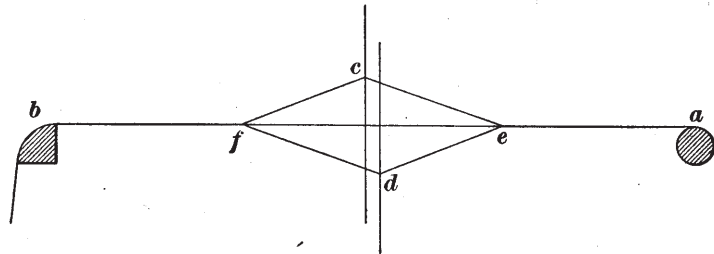

FIG. 1
10. The **warp line** may be defined as an imaginary line drawn from the top of the whip roll to the top of the breast beam and passing through the shed when open. This will be seen by reference to Fig. 1, where *a* represents the whip roll; *b*, the breast beam; *fce*, the line of the top shed; *fde*, the line of the bottom shed; and *ab*, the warp line.
The position that the warp line *ab* assumes forms an important point in the production of cloth on which there is to be more or less cover. In Fig. 1, the warp line *ab* forms the line *aefb* of the warp yarn; in other words, when the harnesses are open, the warp line passes through the center